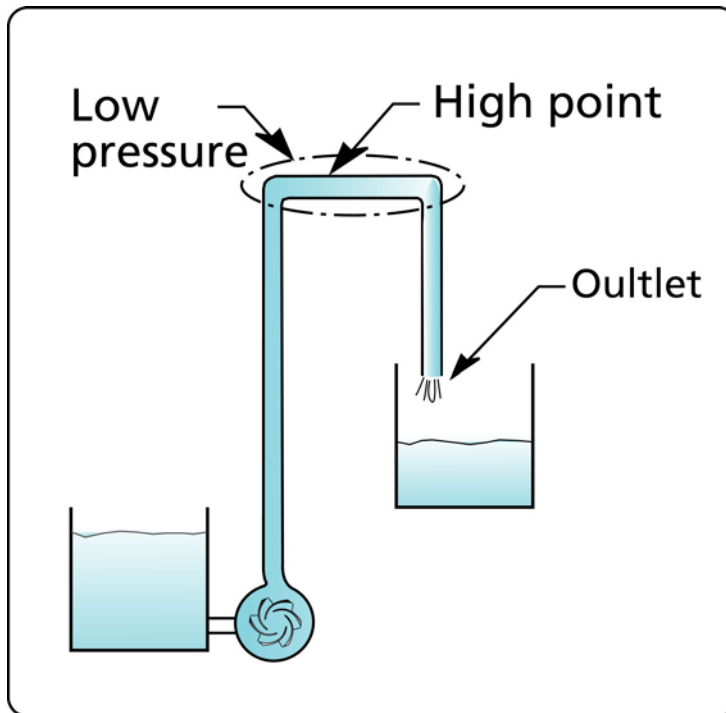

Figure 4 Location of low pressure at a high point in the system.
12. Calculate the level of pressure of the high point in your system (see Figure 4). The pressure may be low enough for the fluid to vaporize and create a vapor pocket which will be detrimental to the performance of the system. The pressure at this point can be increased by installing a valve at some point past the high point and by closing this valve you can adjust the pressure at the high point. Of course, you will need to take that into account in the total head calculations of the pump.